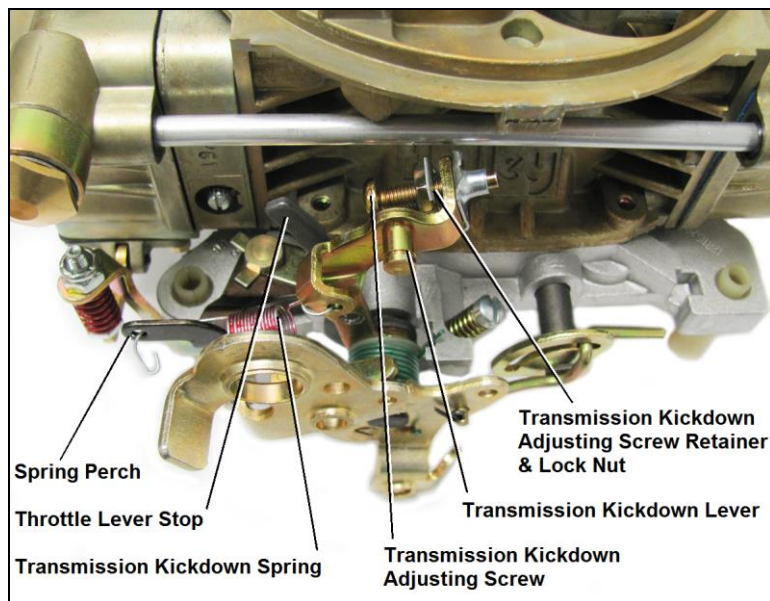

Figure 2—Ford applications
2. Insert the transmission kickdown screw with the black retaining clip on the transmission kickdown lever (Figure 2).
4. Install the transmission kickdown spring between the transmission kickdown lever and spring perch (Figure 2).